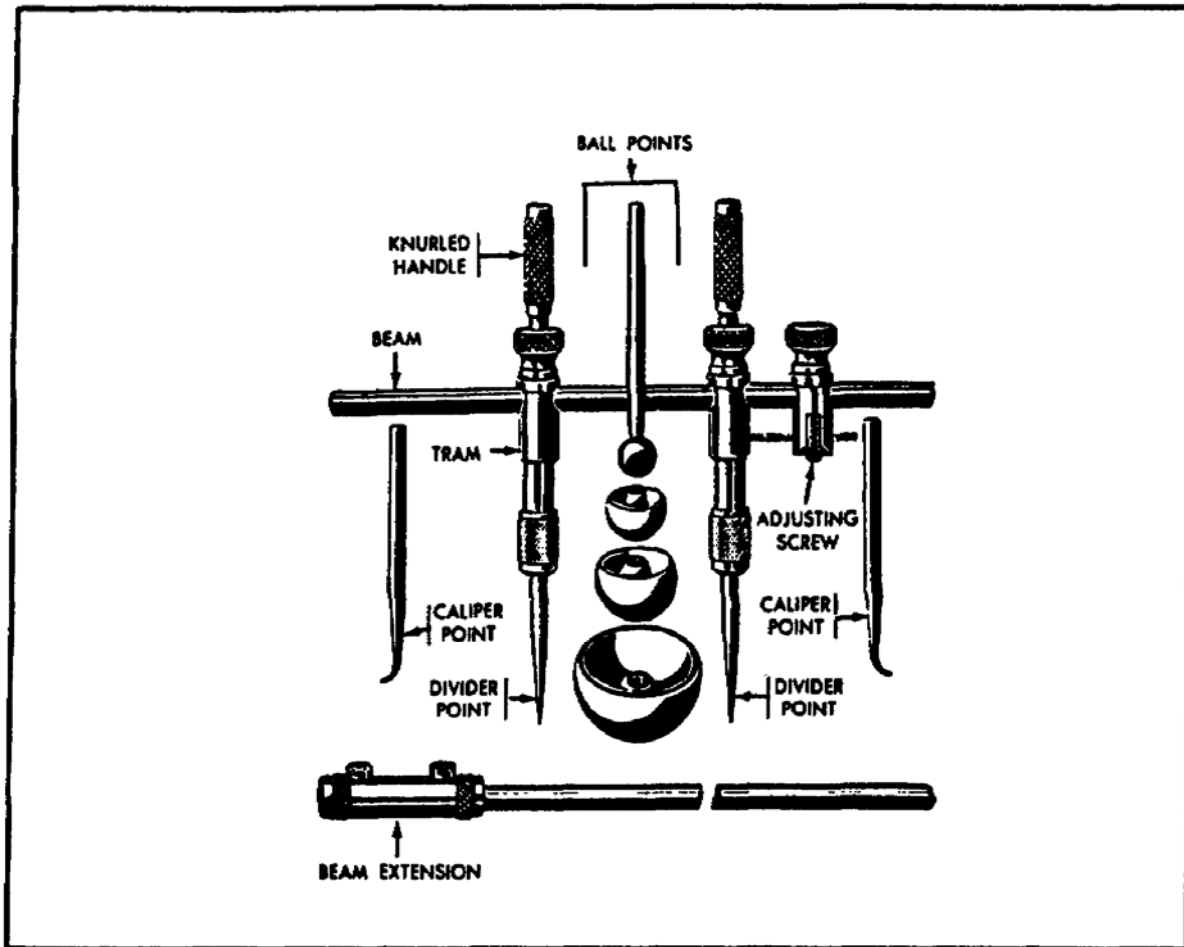

FIGURE 177. TRAMMEL SET.
(5) *Trammels*. A trammel is a tool used for the same purposes as a divider or caliper, but usually for distances beyond the range of either of these instruments. A steel beam trammel with all of the attachments required in measuring and layout work is shown in figure 177. The instrument consists of a rod or beam to which trams may be clamped. These steel beams will range in length from 9 to 20 inches, but may be increased further through the use of extensions. Longer beams are often made of wood. The trams carry spring chucks in which divider points, caliper points, and ball points may be inserted so that the trammel may be readily converted from a divider to an outside or inside caliper or to a hermaphrodite caliper. Ball points are used to position a tram in the center of a hole. By using different size balls or V-points, it is possible to position the tram in any size hole up to 1 1/2 inches in diameter. On top of the trams are knurled handles which swivel so that the handles may be gripped firmly when describing a circle or an arc. An adjusting screw is provided on one of the trams which permits a fine adjustment of the points.